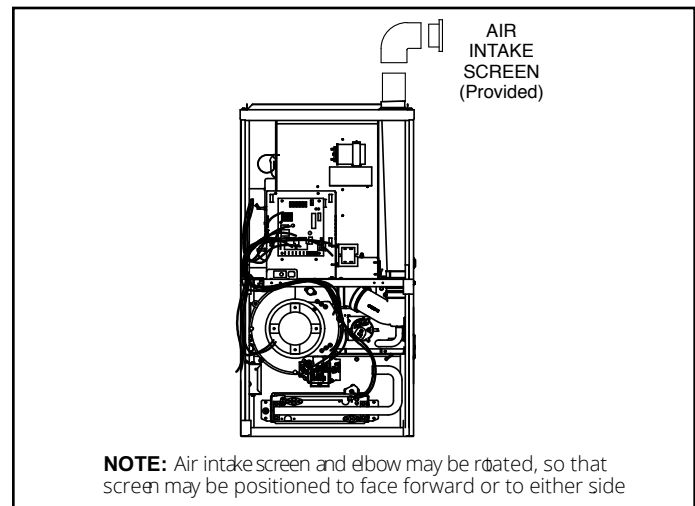

Figure 24. Typical Air Intake Pipe Connections Non-Direct Vent Applications
1. Use field-provided materials and the factory-provided air intake screen to route the intake piping as shown in Figure 24. Maintain a minimum clearance of 3" (76 mm) around the air intake opening. The air intake opening (with the protective screen) should always be directed forward, or sideways.